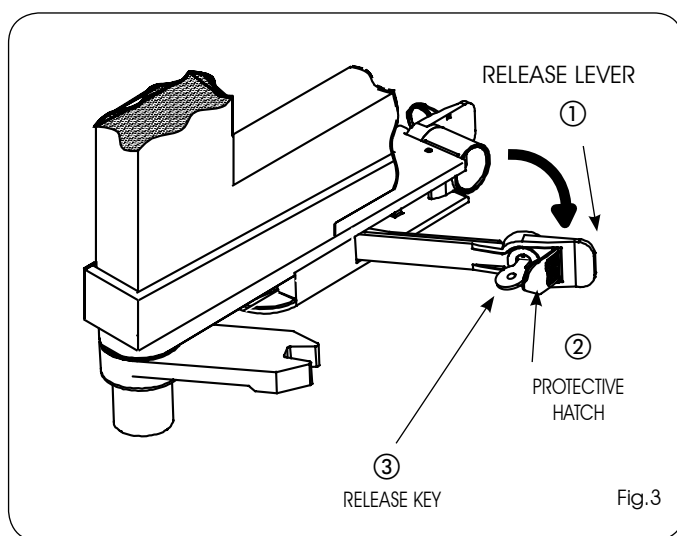

Fig.3
- 1) Open the protective hatch (Fig.3 ref.②).
- 2) Insert the release key in the lock (Fig.3 ref.③) and turn it clockwise sense up to its stop point.
- 3) Pull the release lever toward you (Fig.3 ref.①).